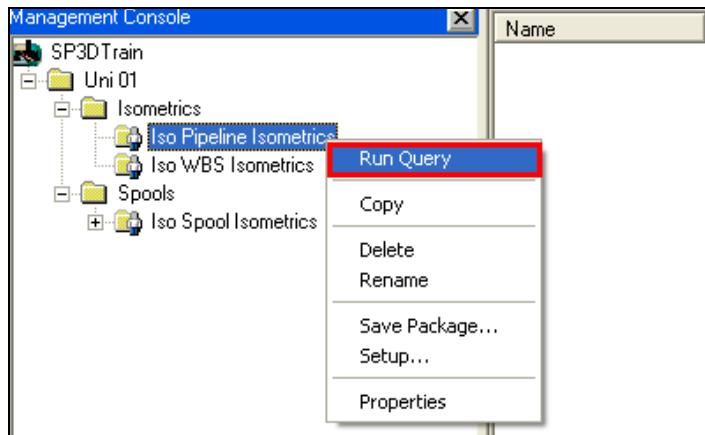

Figure 48: Run Query Option
2. Right-click the **Iso Pipeline Isometrics** component in the **Management Console** and click the **Run Query** command, as shown in Figure 48. SP3D uses the query defined in the **Iso Pipeline Isometrics** component to find the pipelines in the model and display the results of the search in the drawing hierarchy.